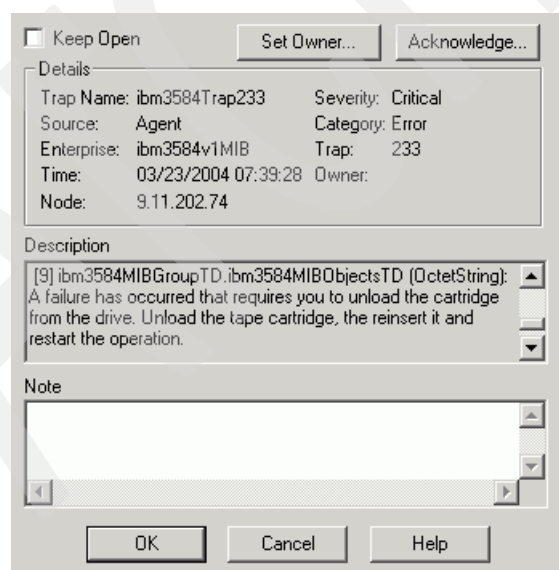

Figure A-21 NetView - Detailed description of TS3500 SNMP Trap
- If you double click one of these SNMP traps, you will get a detailed description of why the library sent an SNMP trap. In most cases, depending on the failure, you also get suggestions for what to do to resolve the failure (see Figure A-21).